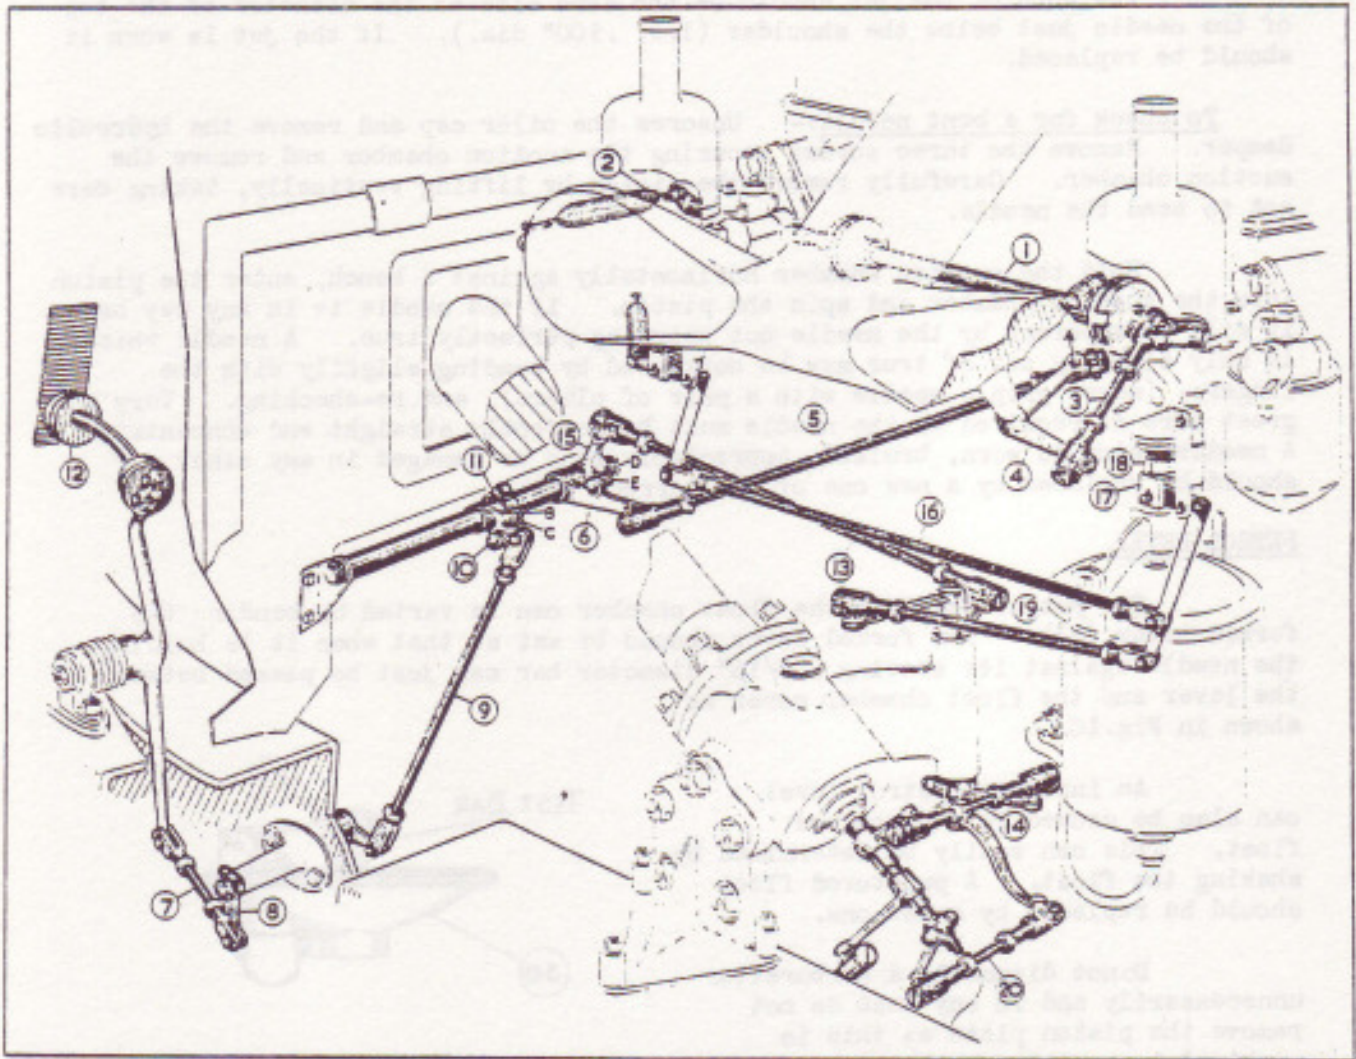

FIG. 11. CARBURETTOR CONTROLS.
- (ii) With the throttle connecting shaft (1, Fig.11) held in the fully closed position by the throttle return spring (2) and with the hand throttle lever on the quadrant of the steering column also in the fully closed position, adjust the length of the rod (3),